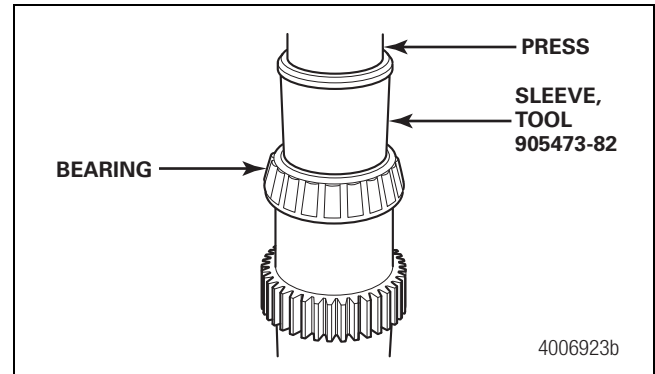

Figure 6.1
2. Use a press and sleeve, tool number 9054730-82, to press the forward bearing DOWN onto the output shaft until it is fully seated. Refer to Section 13 for the tool drawing. Press down only on the inner race of the bearing during installation. Use a 0.002-inch shim or feeler gauge to check that the bearing is correctly seated. Figure 6.1.